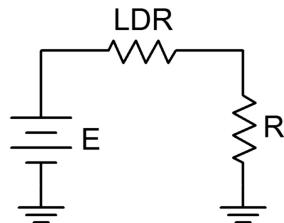

Figure 1
4. Construct the circuit of Figure 1 using $E=10$ volts and $R=10 \text{ k}\Omega$. Using the voltage divider rule, determine the expected value for the voltage across R under normal lighting and then measure the voltage. Record these values in Table 2.